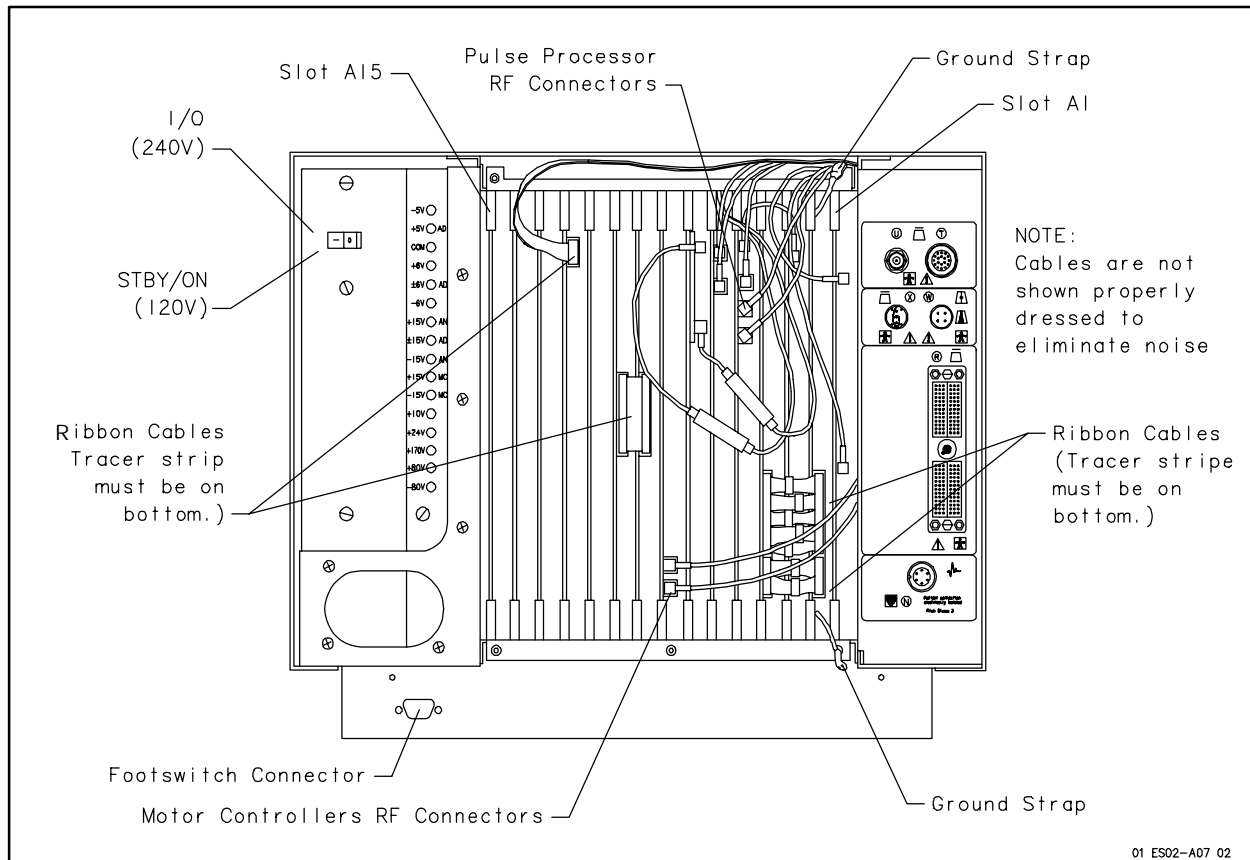

Figure 2B-6. Electronics Module PCB Slot Designations
5. On systems with ECG, verify that ribbon-cable connector on front edge of TM-mode Scan Converter PCB (A12) is securely seated and is positioned as shown in Figure 2B-6. The tracer stripe on the ribbon cable must be on the bottom edge.